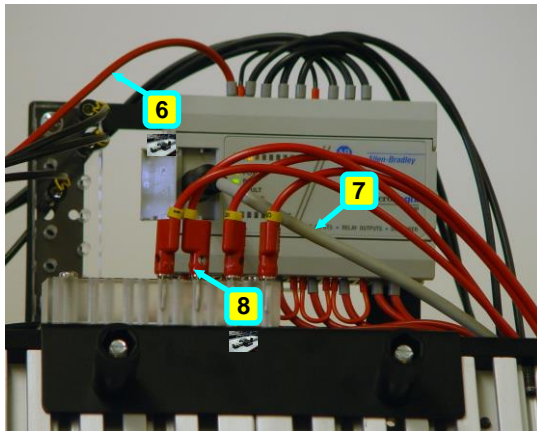

Figure 3: PLC MicroLogix Components
1. From the PLC MicroLogix, connect the black banana cable (#5, in figure 3), labeled as (-), to a black socket on the Electrical Distributor.
2. From the PLC MicroLogix, connect the red banana cable (#4, in figure 3), labeled as (+), to a red socket on the Electrical Distributor.
3. From the PLC MicroLogix, connect the red COM cable (#6, in figure 3), labeled as COM to a red socket on the Electrical Distributor.